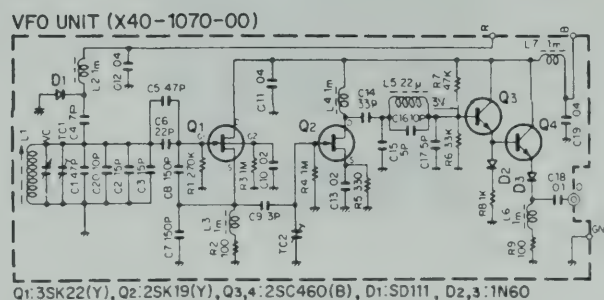

Figure 21 VFO Board
5.10 VFO BOARD (X40-1070-00) (See Figure 21)